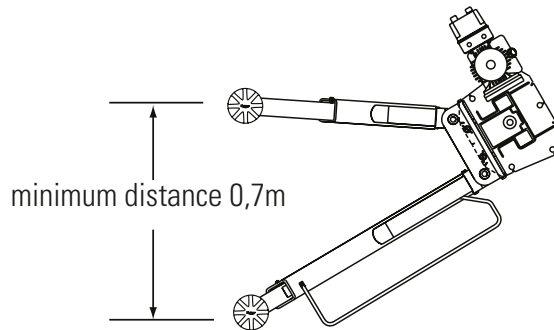

Fig. 2
- The min. distance between the front and rear mounting points is 0.7 m (see Fig. 2).